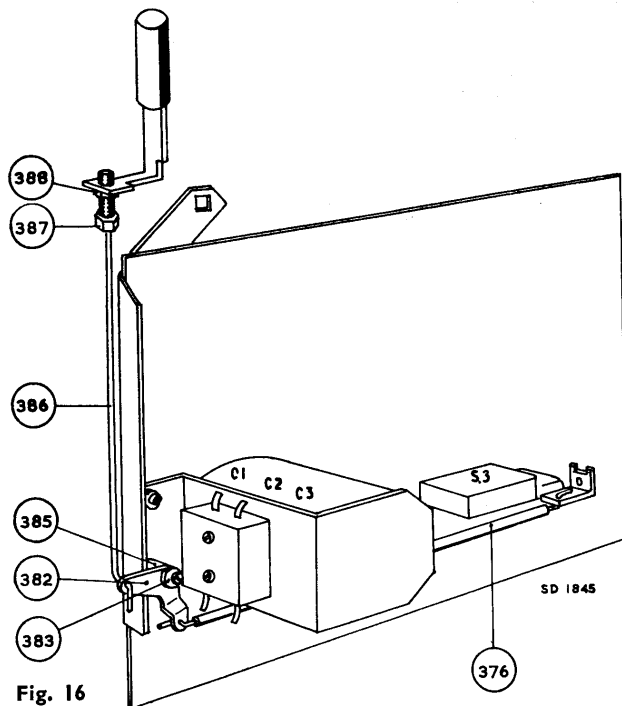

Fig. 16
- (ii) Some recorders are fitted with a different control system for operating track switch S3 as shown in Fig. 16. Adjustment is made in track 2-3 position, the effective length of control rods being altered by nuts 387 and 388.